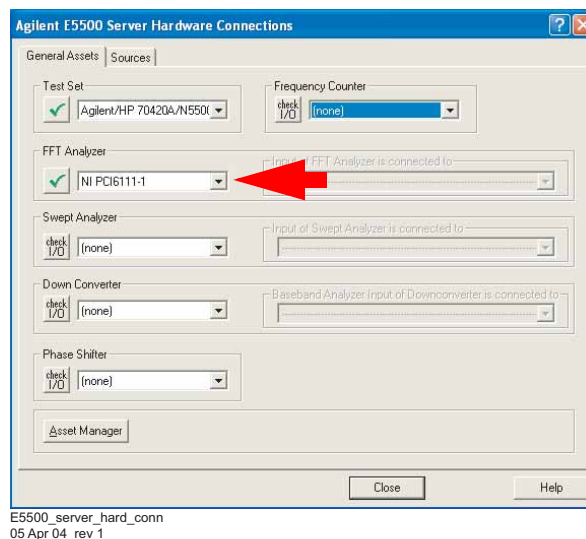

Figure 25 Select test set, FFT analyzer, and swept analyzer
- 4 From the *FFT Analyzer* pull-down list, select **NI PCI6111-1** (see Figure 25). Click the **Check I/O** button. A green check-mark confirms a successful I/O check. If the I/O check is not successful, follow the same process as in step 3d to verify instrument configuration and connection.